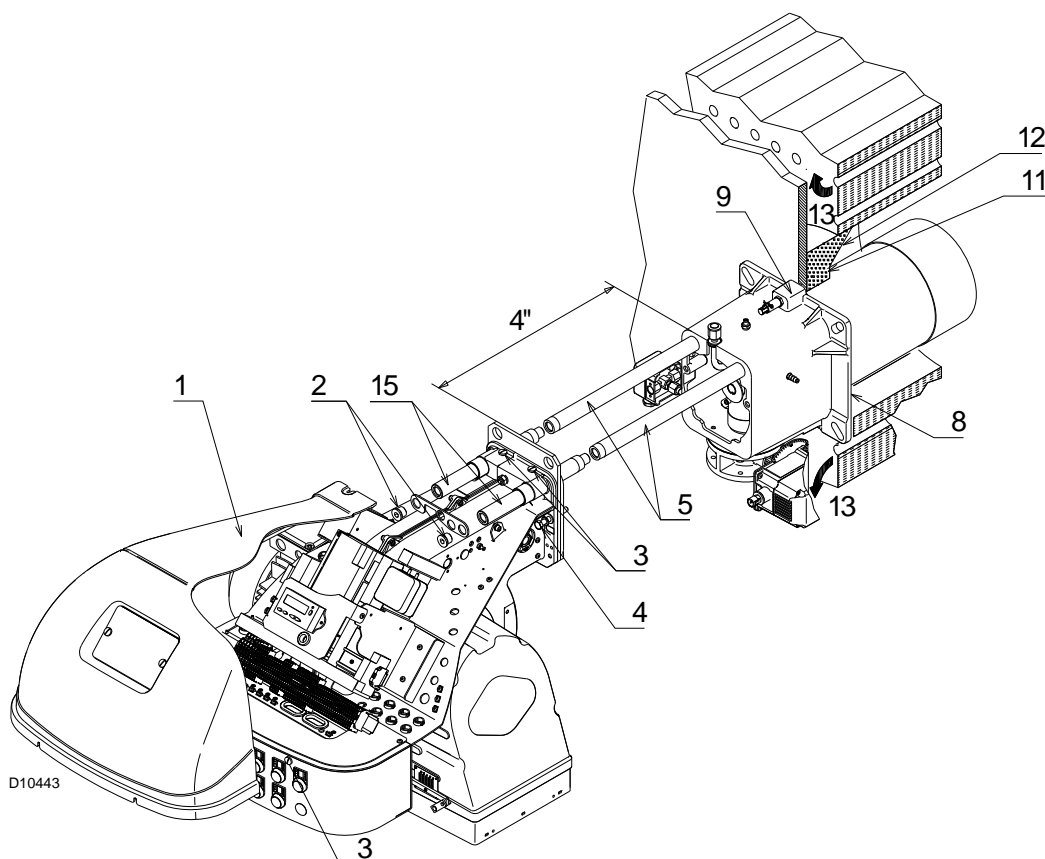

Fig. 12
- For boilers with front flue passes 13)(Fig. 12) or flame inversion chambers, a protection in refractory material 11) must be inserted between the boiler refractory 12) and the blast tube 10).
- For boilers with a water-cooled frontal, a refractory lining is not necessary 11)-12)(Fig. 12) unless expressly requested by the boiler manufacturer.
- Secure the burner to the boiler, fixing the flange 9)(Fig. 12) to the boiler plate and interposing the insulating gasket 8).
- loosen the 4 screws 3)(Fig. 12) and remove the cover 1);